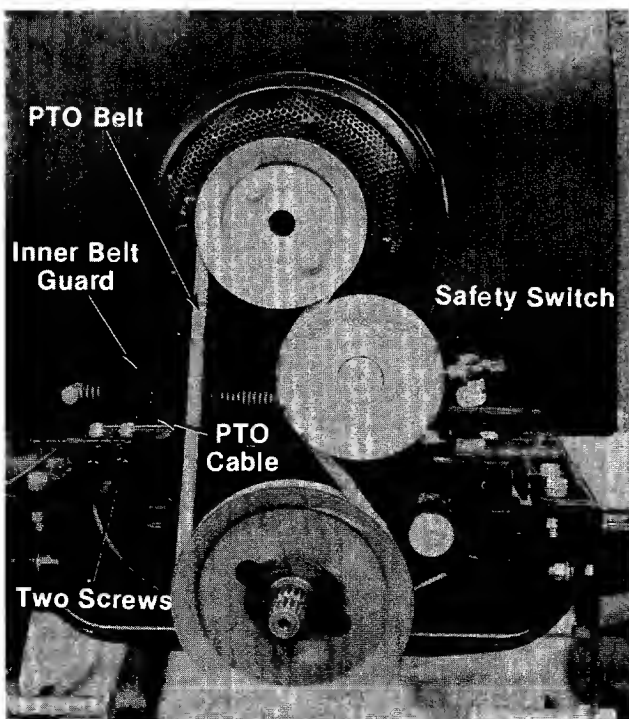

FIGURE 24.
3. Loosen two screws on inner belt guard. See figure 24.
Figure 24 was photographed with grille removed for clarity.